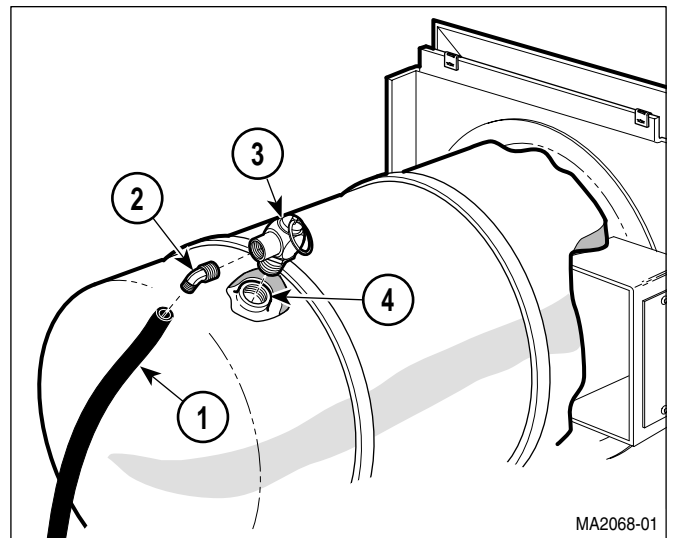

Figure 4-26. Pressure Relief Valve Removal / Installation
- (1) Remove condensing tank assembly (Refer to para 4.22).
- (2) Disconnect tube (1, Figure 4-26) from elbow (2).
- (3) Remove elbow (2) from pressure relief valve (3).
- (4) Remove pressure relief valve (3) from pressure vessel (4).